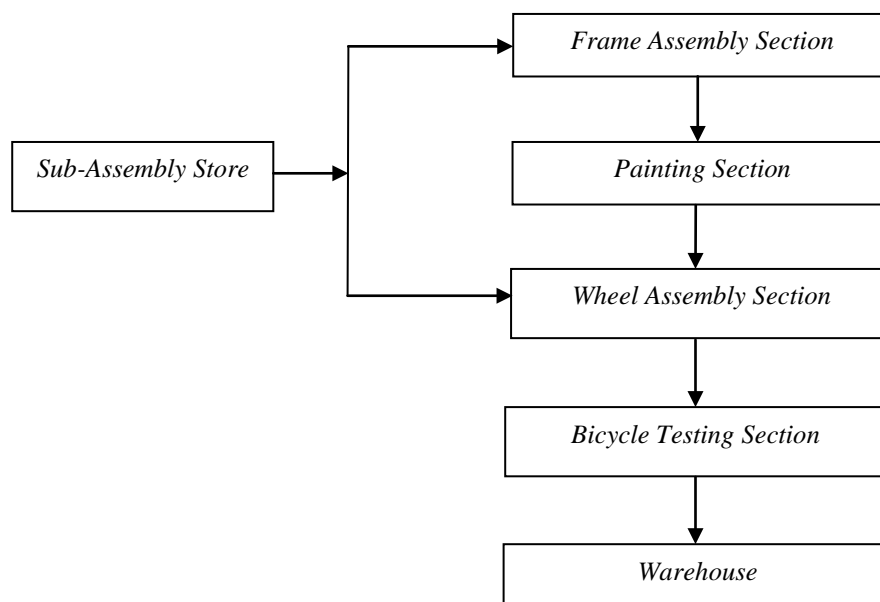

Figure 1: LSB Bicycle Assembly Production Flow
Lean Sdn. Bhd. (LSB) produces bicycle for major brand names. The process of assembling the bicycles area carried out manually. *Figure 1* shows the production flow at LSB.
- (i) **Construct a detailed “Process Flow Chart” for LSB with reference to Figure 1 and include the time required for each assembly section. For any task/activity where the time is not given, assume it negligible.**
Bina satu “Carta Aliran Proses” LSB yang lengkap dengan merujuk kepada “Figure 1” dan sertakan masa yang diperlukan untuk setiap seksyen pemasangan. Untuk kerja/aktiviti di mana masa tidak dinyatakan, sila anggap boleh diabaikan.